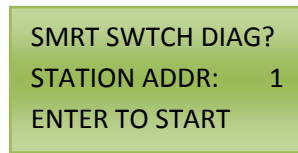

Figure 18.2
- a. This action allows the user to see if the Time-Keeper® is communicating with the Control Stations. Press ENTER to start the test. Press ENTER a second time to stop the test. See Figure 18.2 for an example.